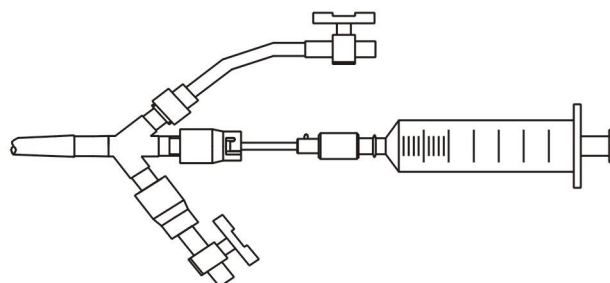

Fig. 6 Flush the inner tube
- 1) Flush the inner tube with heparinized saline (see Fig. 6).**